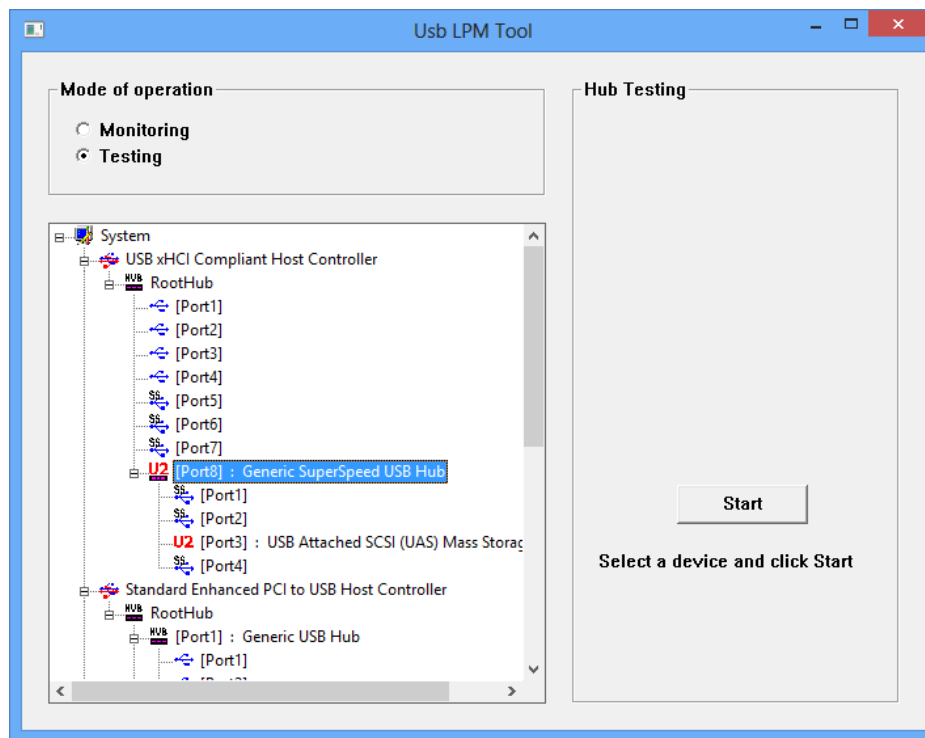

Figure 3-13: Usb LPM Tool Interface
- Select the SuperSpeedPlus hub from the list as shown in Figure 3-13.